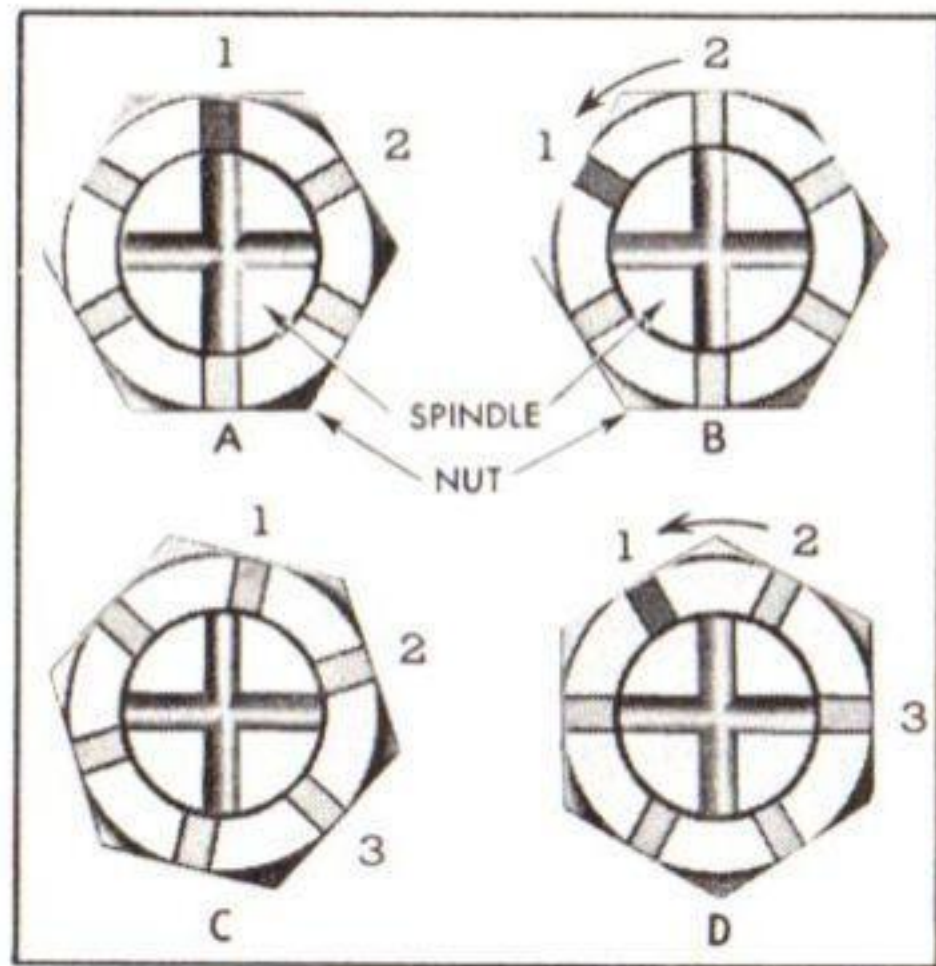

Fig. 54—Method of Adjusting Front Wheel Bearings
3. Check the location of a slot in the nut with reference to a hole in the spindle. If a slot in the nut lines up with either the vertical or horizontal holes in the spindle (see A, fig. 54),
back off the nut ($\frac{1}{6}$ turn) until the next slot in the nut lines up with the same hole in the spindle and insert cotter pin (see B, fig. 54).
4. If, when the spindle nut is tightened to 33 foot pounds, the slot in the nut has passed beyond vertical or horizontal holes in spindle (see C, fig. 54), back off the nut a sufficient amount (less than $\frac{1}{6}$ turn) to line up the second next slot in nut and the other hole in the spindle.
5. To illustrate this point the slots in the nut are indicated 1, 2 and 3 (see D, fig. 54). If the slot marked 1 on the